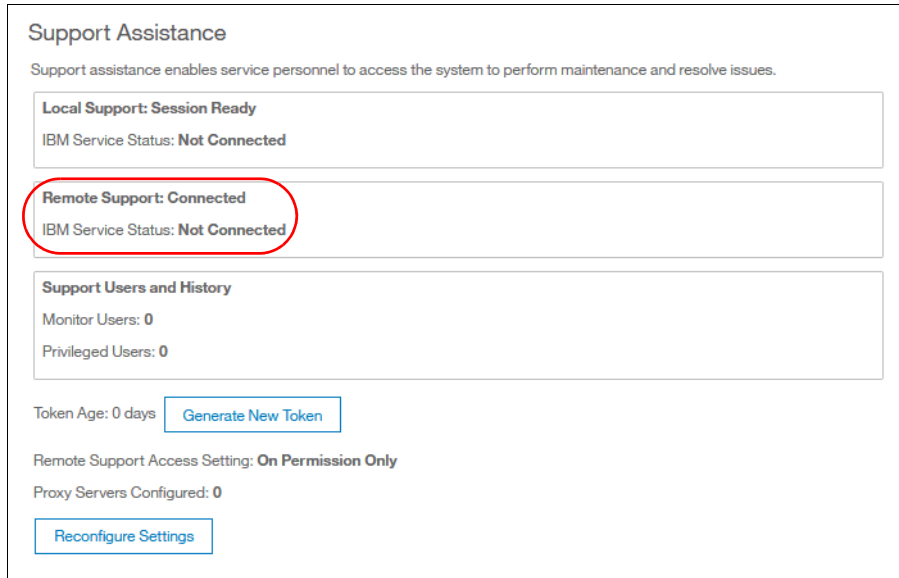

Figure 7-72 Remote Assistance tunnel connected
9. A pop-up window asks how long you would like the tunnel to remain open if there is no activity by setting a timeout value. As shown in Figure 7-72, the connection is established and waits for IBM Support to connect.